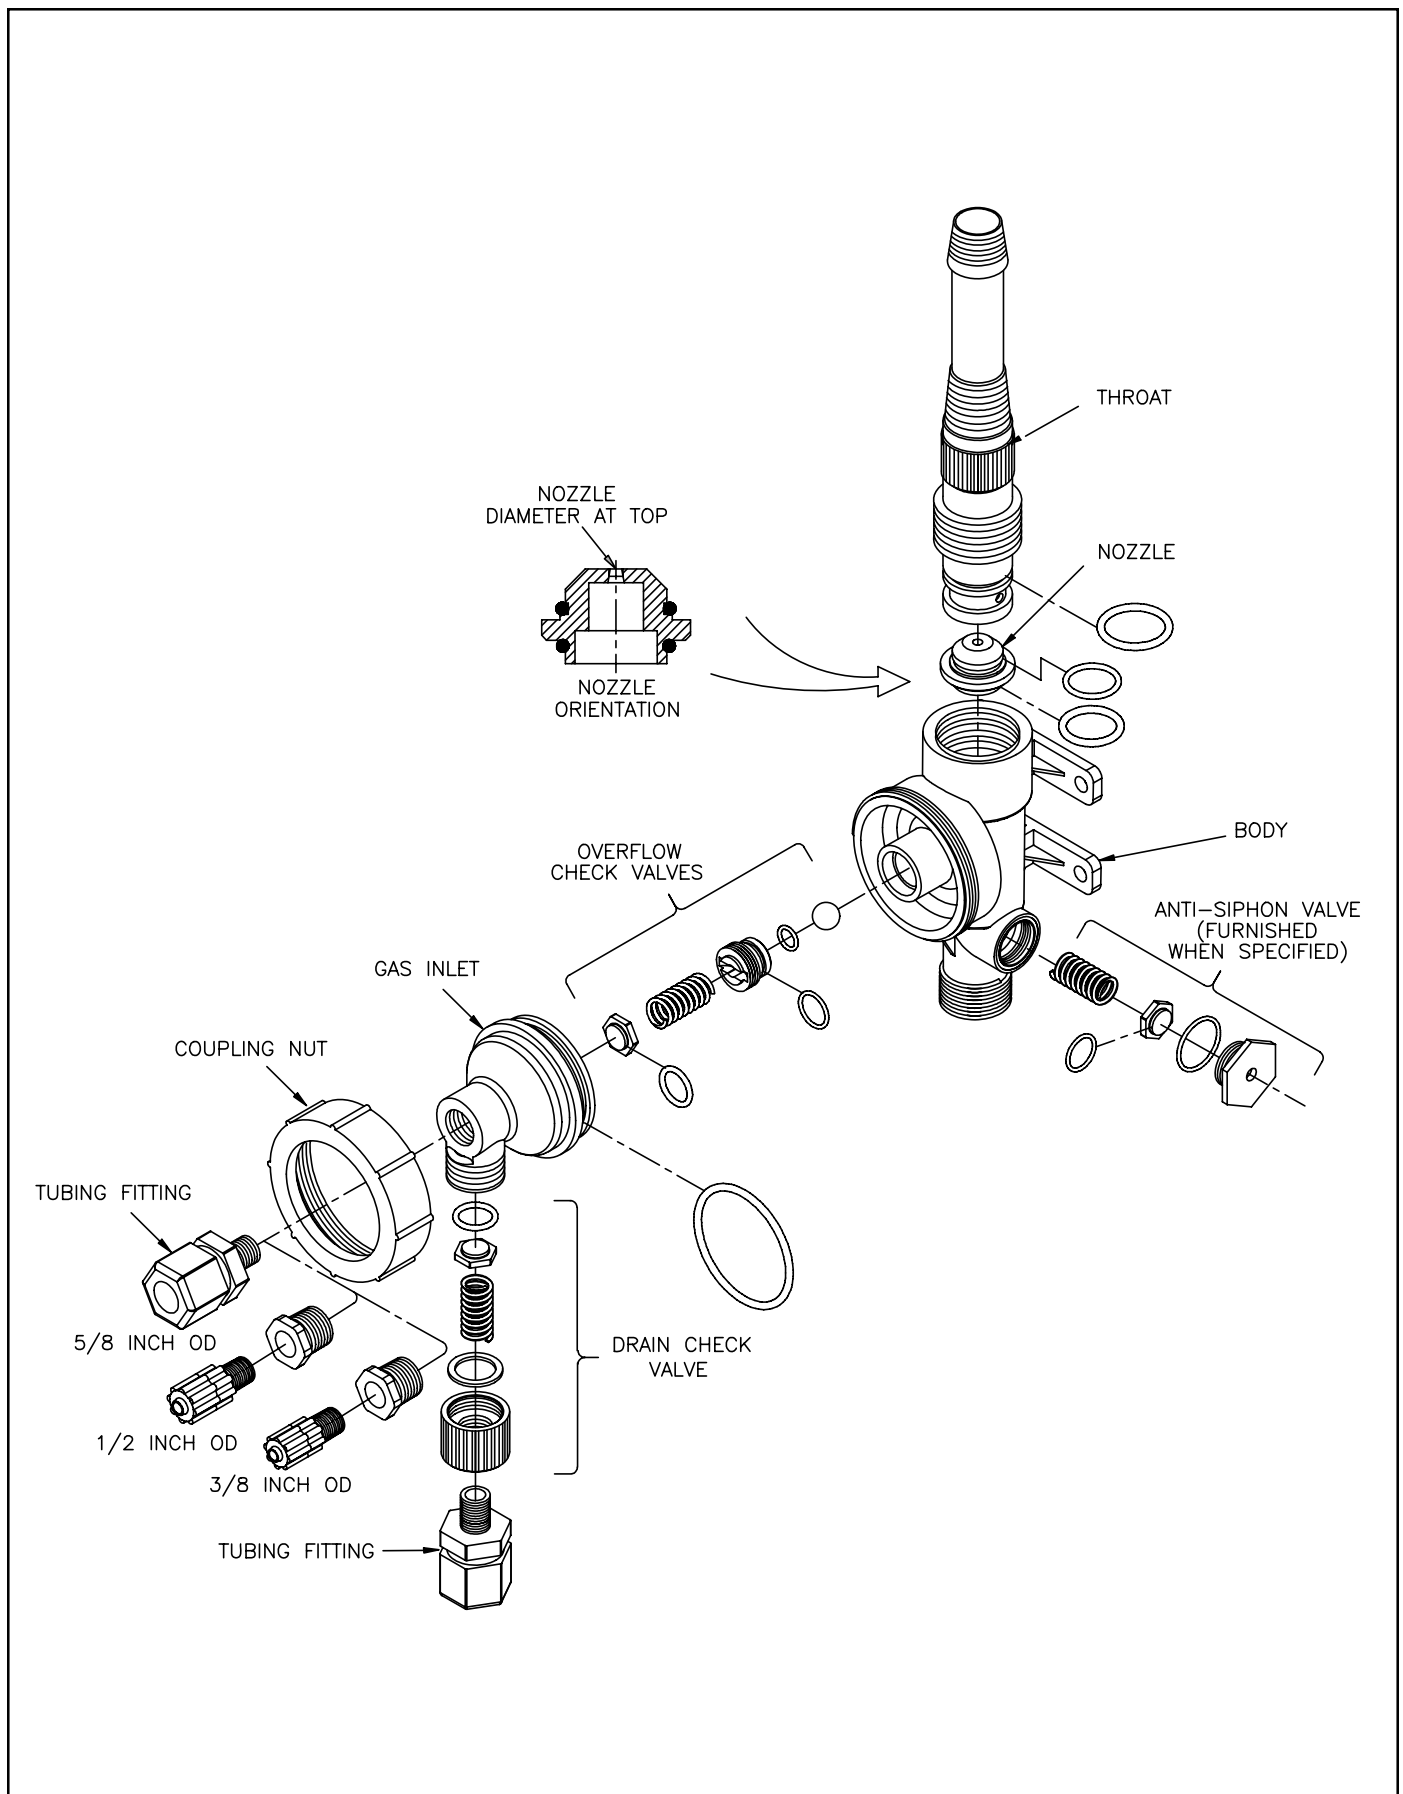

Figure 4 - EJ17 Exploded View
- 4.1.2 The manner in which the components can be disassembled for servicing becomes apparent by referring to Figure 4. A preventative maintenance kit P/N 614S092U01 is available for periodic service. The kit contains all the recommended spare parts and cleaning/assembly directions required for complete maintenance of the ejector.